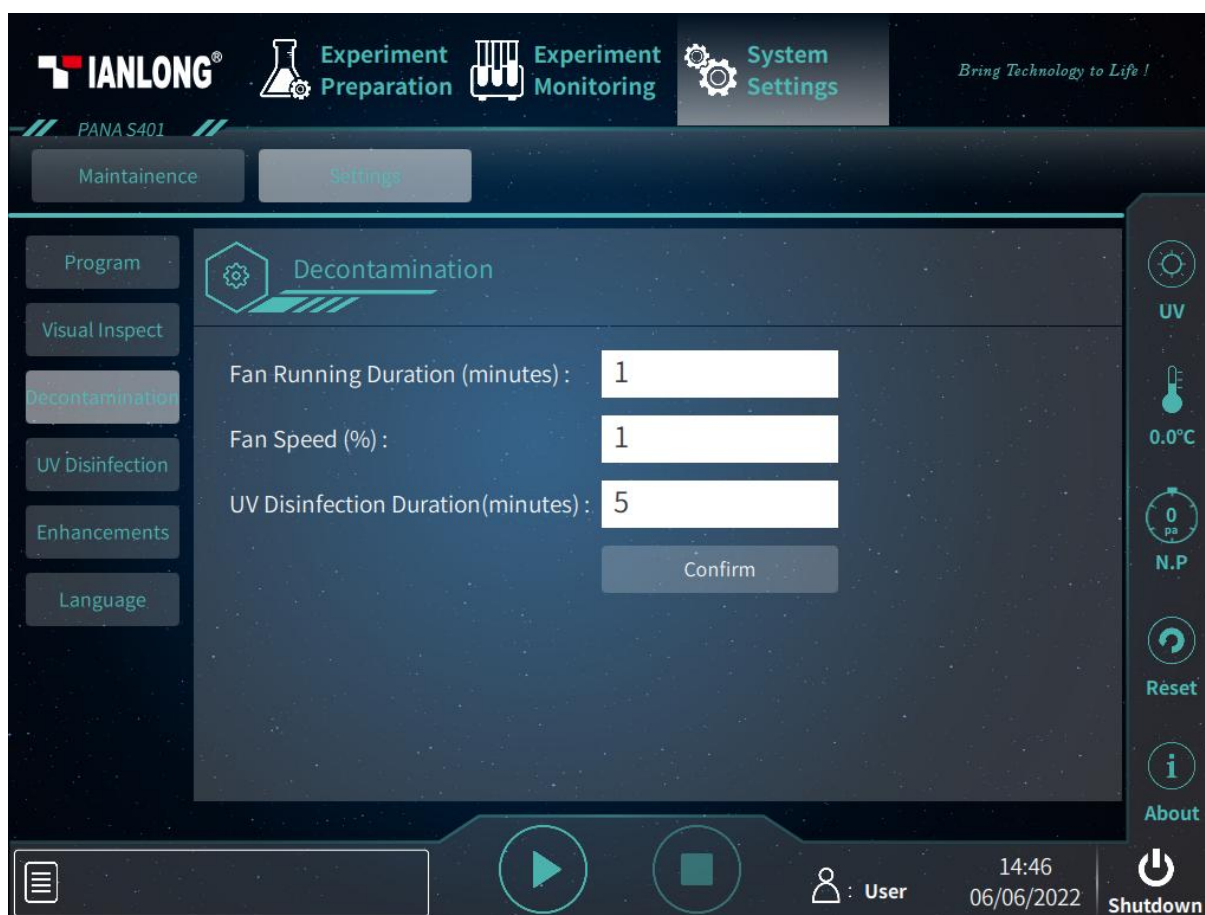

Figure 5-24. System Settings Interface – Settings Tab – Decontamination
- ▶ **< Decontamination >**: User could click this function key to set the decontamination parameters, including **Fan running Duration**, **Fan Speed** and **UV Disinfection Duration**, as shown in figure 5-24.